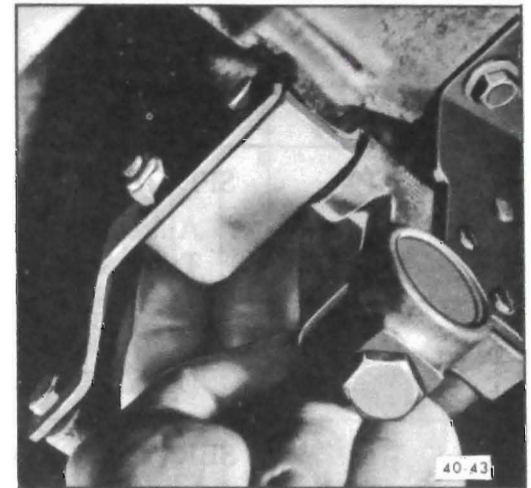

Figure 40-11 - Hold Overtravel Body in Exhaust Position
2. Hold overtravel body down in exhaust position until air escapes from exhaust port. See Figure 40-11.